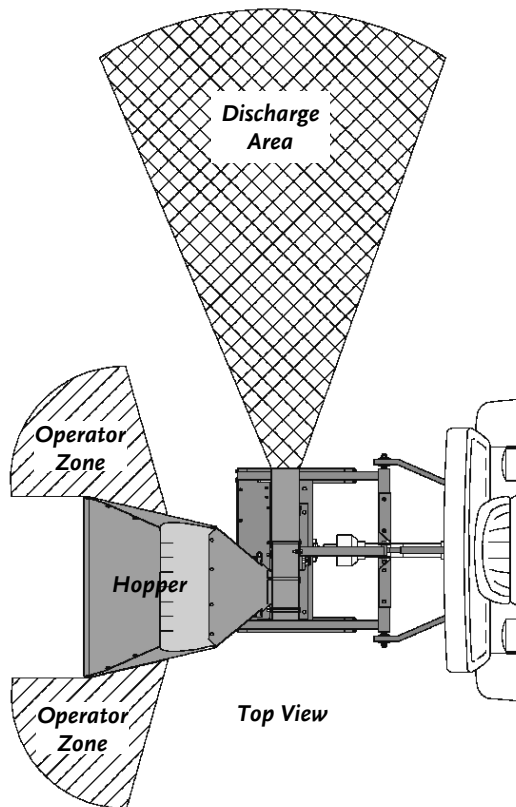

Figure 26
- Only operate the DR RAPID-FEED CHIPPER from the Operator Zones shown in **Figure 26**.